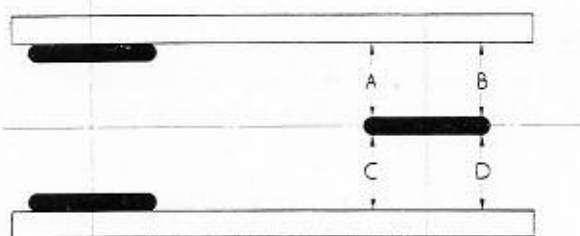

FIG. F2. *Front wheel alignment.*
Move the straight-edges forward as in Fig. F2, and with the straight-edges touching the rear wheels at all four points, measure the distance at points (A), (B), (C) and (D) which should all be identical figures. If these measurements do not correspond, the machine should be taken to your dealer for attention.